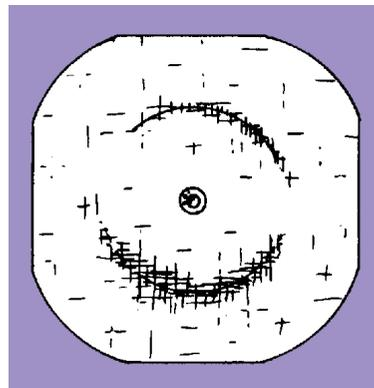

Figure 8
- Remove your **OrthoPak 2** when you bathe, shower or swim. You should also either remove the electrodes or cover them with the additional adhesive covers provided, as shown in Figure 8 if you prefer to leave the electrodes attached to the skin during showering.